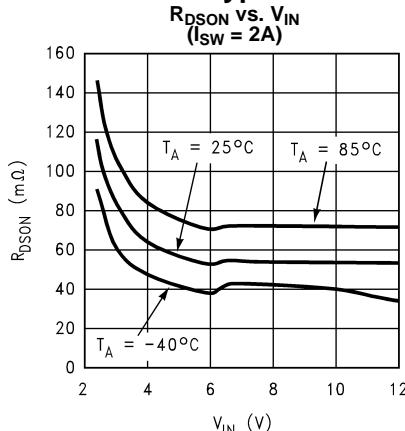

Figure 9.
- R_{DSON} is the ON resistance of the internal switch taken Figure 9 (5)